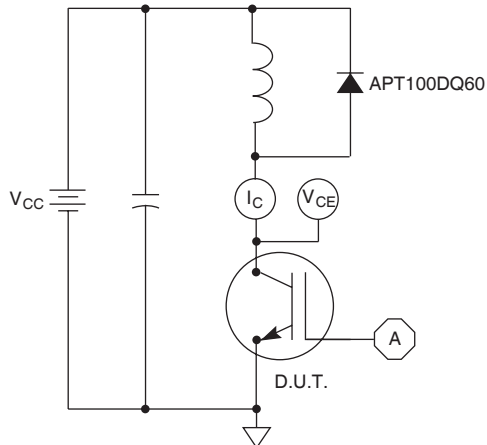

Figure 21, Inductive Switching Test Circuit
- ⑤ E_{on2} is the clamped inductive turn-on energy that includes a commutating diode reverse recovery current in the IGBT turn-on switching loss. (See Figures 21, 22)
- ⑥ E_{off} is the clamped inductive turn-off energy measured in accordance with JEDEC standard JESD24-1. (See Figures 21, 23)
- ⑦ R_G is external gate resistance, not including R_{Gint} nor gate driver impedance. (MIC4452)